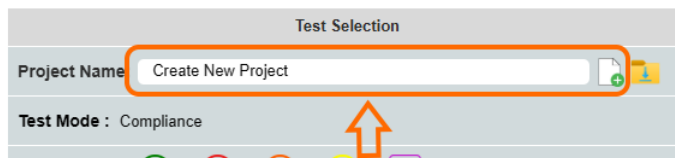

FIGURE 2.3: CREATE NEW PROJECT
4. Create a new Project by clicking on the Project Name entry field or Create New Project icon as shown in Figure 2.3 below.